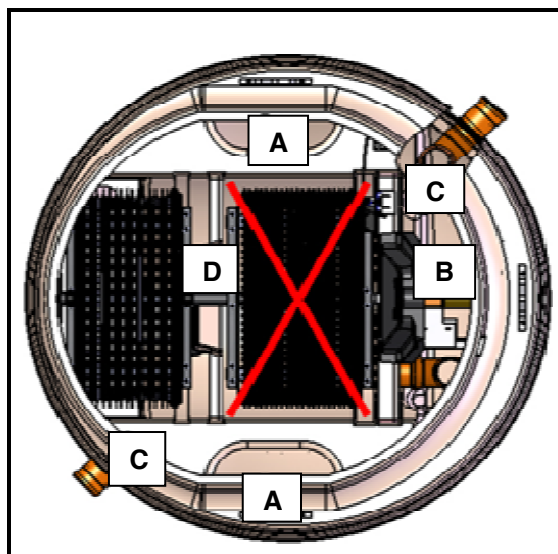

Fig. 6 - Desludge Positions
- 6.2.1 As a back-up to routine servicing and to assist trouble-free operation, we recommend that you familiarise yourself with the operation of your BioDisc and make the following checks from time to time: (Refer to Fig. 6 for positions of parts mentioned.)